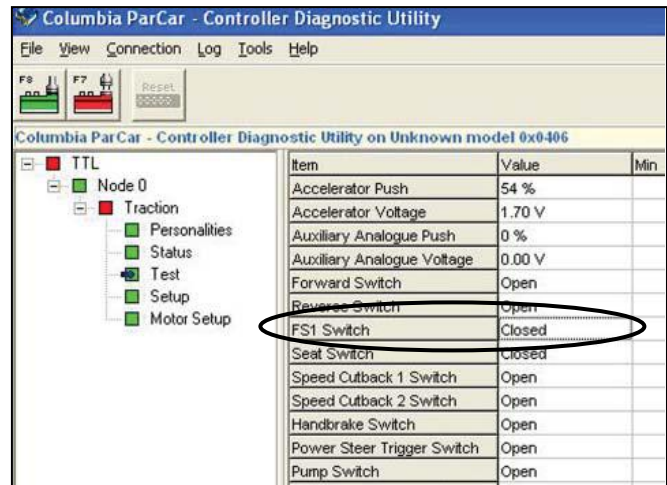

Figure 4-5
3. Check the FS1 Switch input on the same screen. With the accelerator at rest, the value for the FS1 Switch should read “open”. When the accelerator pedal is pressed, the value should change to “closed” (Figure 4-5). If the value fails to close, check the FS1 wiring circuit and test the switch with a VOM. Check the wiring back to the controller (Pin 4).
4. Check the direction input to the controller. Observe the value of the “Forward Switch” item while turning the direction selection knob to “Forward” and to “Neutral”. The switch should read “open” when the knob is in neutral and “closed” when in forward (Figure 4-5). Do the same in reverse by monitoring the “Reverse Switch” item and value. If the switch fails to close in either direction, check the switch with a VOM and the wiring back to the controller (Pin 2 for Forward and Pin 3 for Reverse).